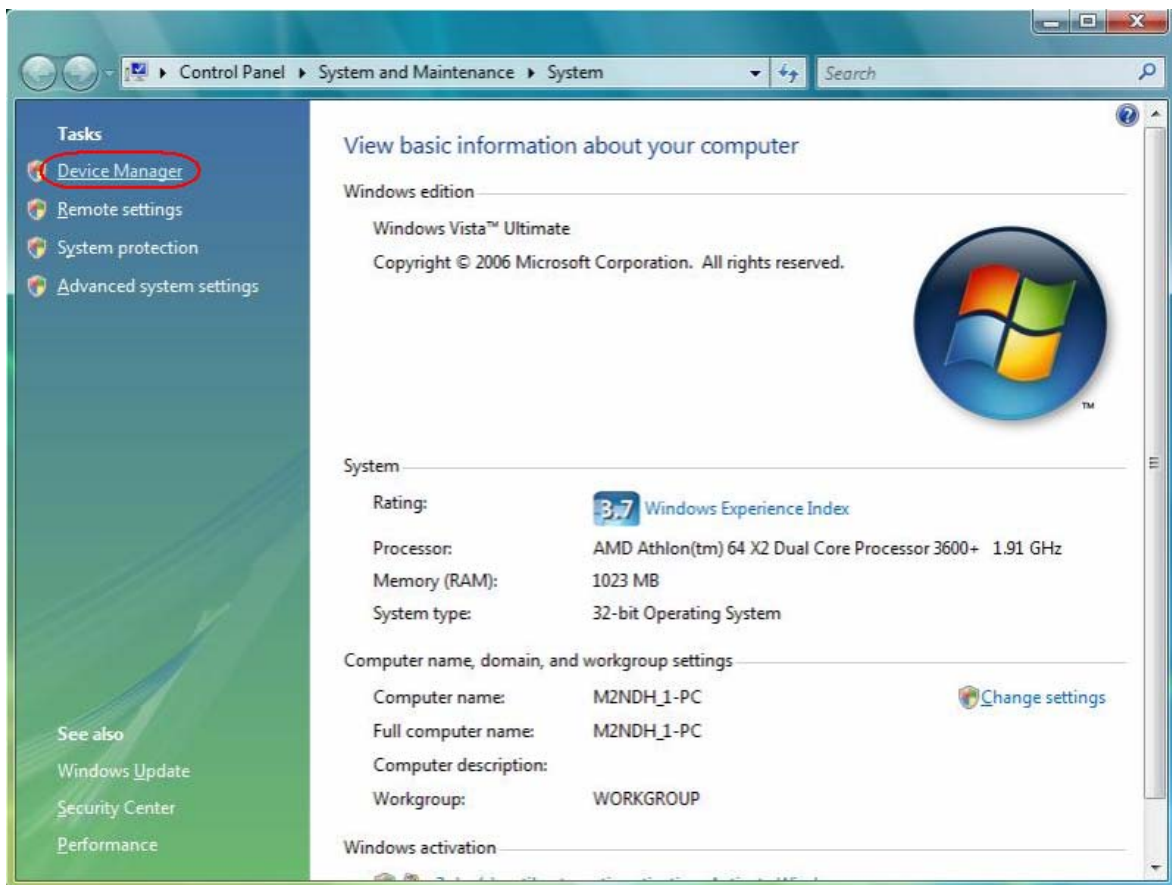

Figure 2-20
Step 7: Select the model of the Adapter as shown in Figure 2-20, then click **Next**.